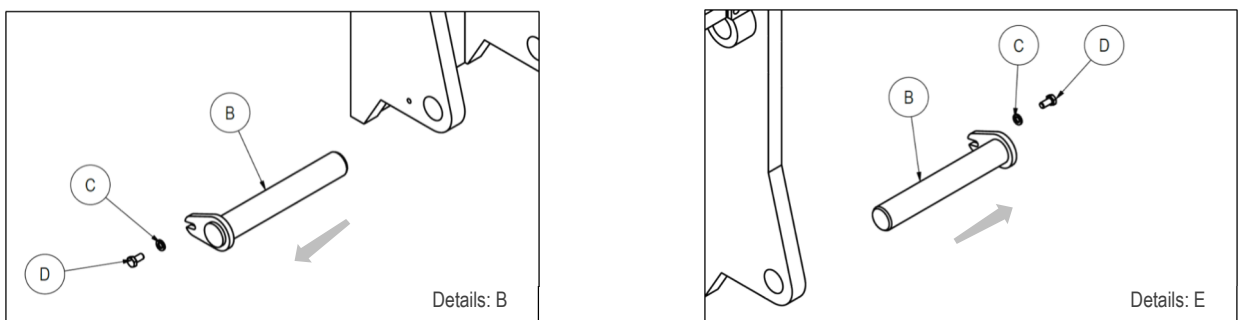

Figure 3
- Using the appropriate spanner, unscrew screw "D" and remove pin "B" as indicated in detail A and D Figure 3. In detail, the upper cylinder fixing pin to the fixed structure is indicated;